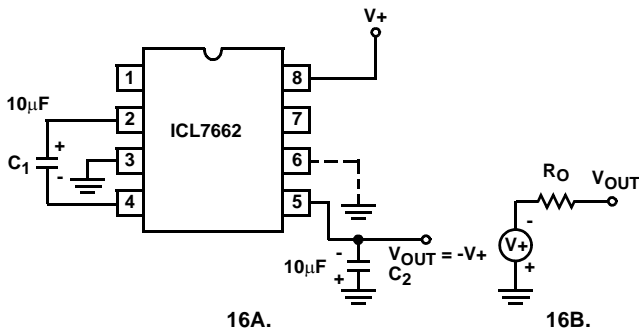

FIGURE 16. SIMPLE NEGATIVE CONVERTER AND ITS OUTPUT EQUIVALENT
The majority of applications will undoubtedly utilize the ICL7662 for generation of negative supply voltages. Figure 16 shows typical connections to provide a negative supply where a positive supply of +4.5V to 20.0V is available. Keep in mind that pin 6 (LV) is tied to the supply negative (GND) for supply voltages below 10V.
ESR also affects the ripple voltage seen at the output. The total ripple is determined by  $2V$ ,  $A$  and  $B$ , as shown in Figure 16. Segment A is the voltage drop across the ESR of  $C_2$  at the instant it goes from being charged by  $C_1$  (current flowing into  $C_2$ ) to being discharged through the load (current flowing out of  $C_2$ ). The magnitude of this current change is  $2 \times I_{OUT}$ , hence the total drop is  $2 \times I_{OUT} \times ESR_{C_2} V$ . Segment B is the voltage change across  $C_2$  during time  $t_2$ , the half of the cycle when  $C_2$  supplies current the load. The drop at B is  $I_{OUT} \times t_2 / C_2 V$ . The peak-to-peak ripple voltage is the sum of these voltage drops:
Figure 23 combines the functions shown in Figure 16 and Figure 22 to provide negative voltage conversion and positive voltage doubling simultaneously. This approach would be, for example, suitable for generating +9V and -5V from an existing +5V supply. In this instance capacitors C1 and C3 perform the pump and reservoir functions respectively for the generation of the negative voltage, while capacitors C2 and C4 are pump and reservoir respectively for the doubled positive voltage. There is a penalty in this configuration which combines both functions, however, in that the source impedances of the generated supplies will be somewhat higher due to the finite impedance of the common charge pump driver at pin 2 of the device.